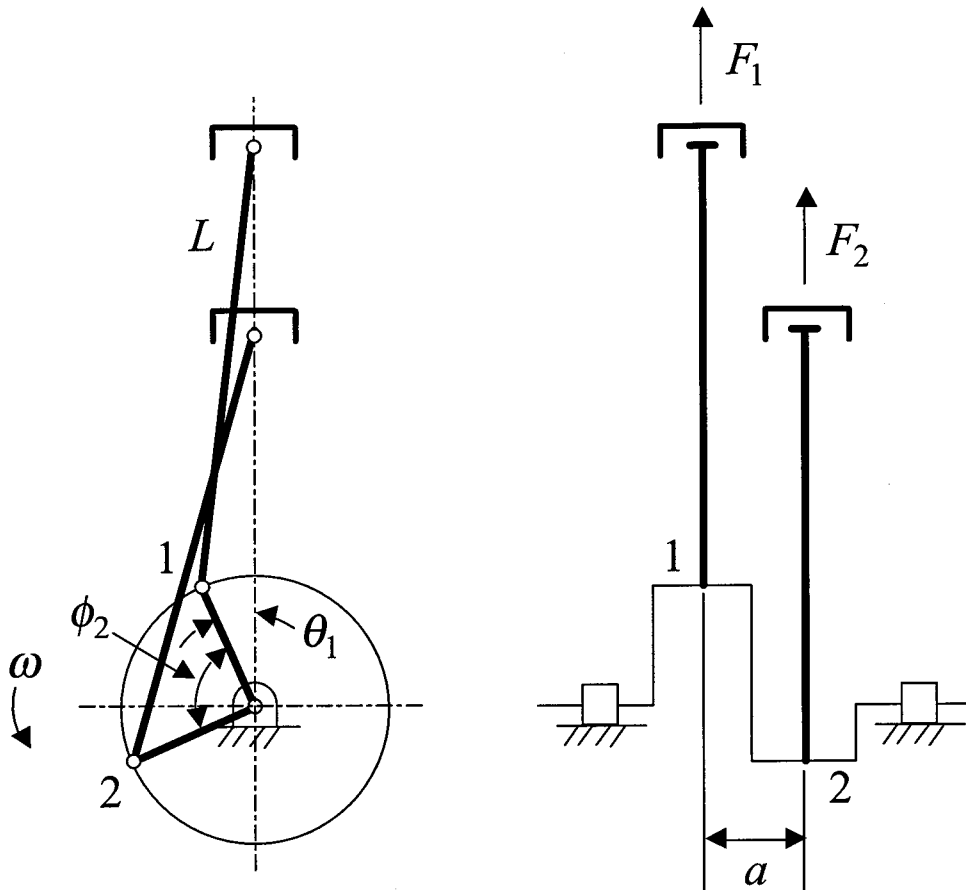

Figure 1
1. By the analytical method determine the equations of unbalance of the reciprocating masses for the two-cylinder engine of Figure 1 in which the cranks are at 90 degrees.